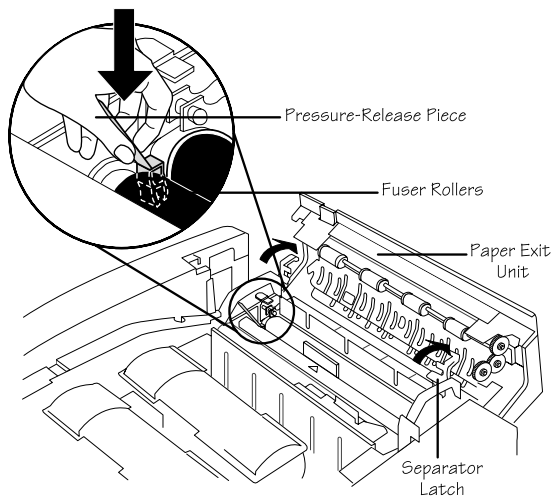

Fig. 6.9 Replace the Pressure-Release Pieces
5. If you are replacing the pressure-release pieces, hold one of the pieces down close to its base and firmly slide the base between the fuser rollers on one end (fig. 6.9). Then, repeat the process with the second pressure-release piece at the other end of the fuser rollers. When correctly positioned, the pieces fit snugly between the rollers.